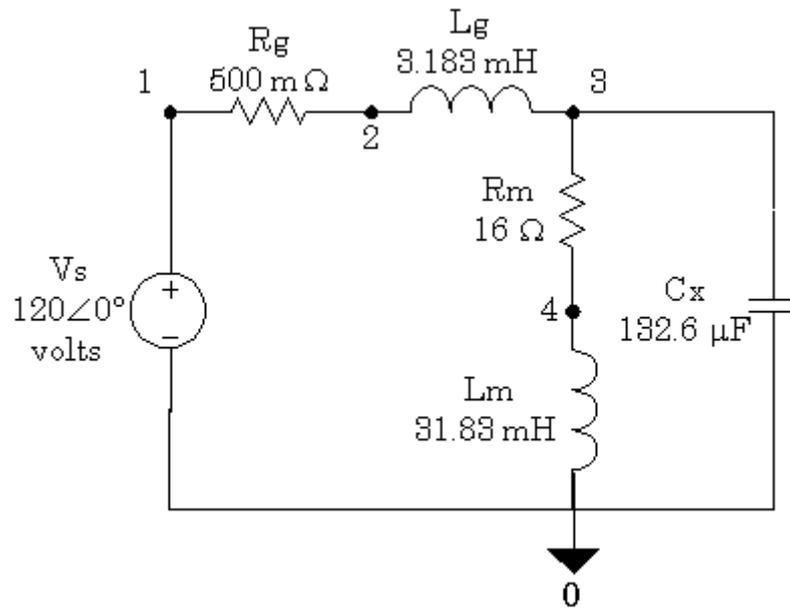

Figure 1. Circuit for Example 1
- Go to Figure 1. Use pen and paper to calculate the Voltages and Currents of all the nodes at 60Hz. Also, draw the phasor diagram.